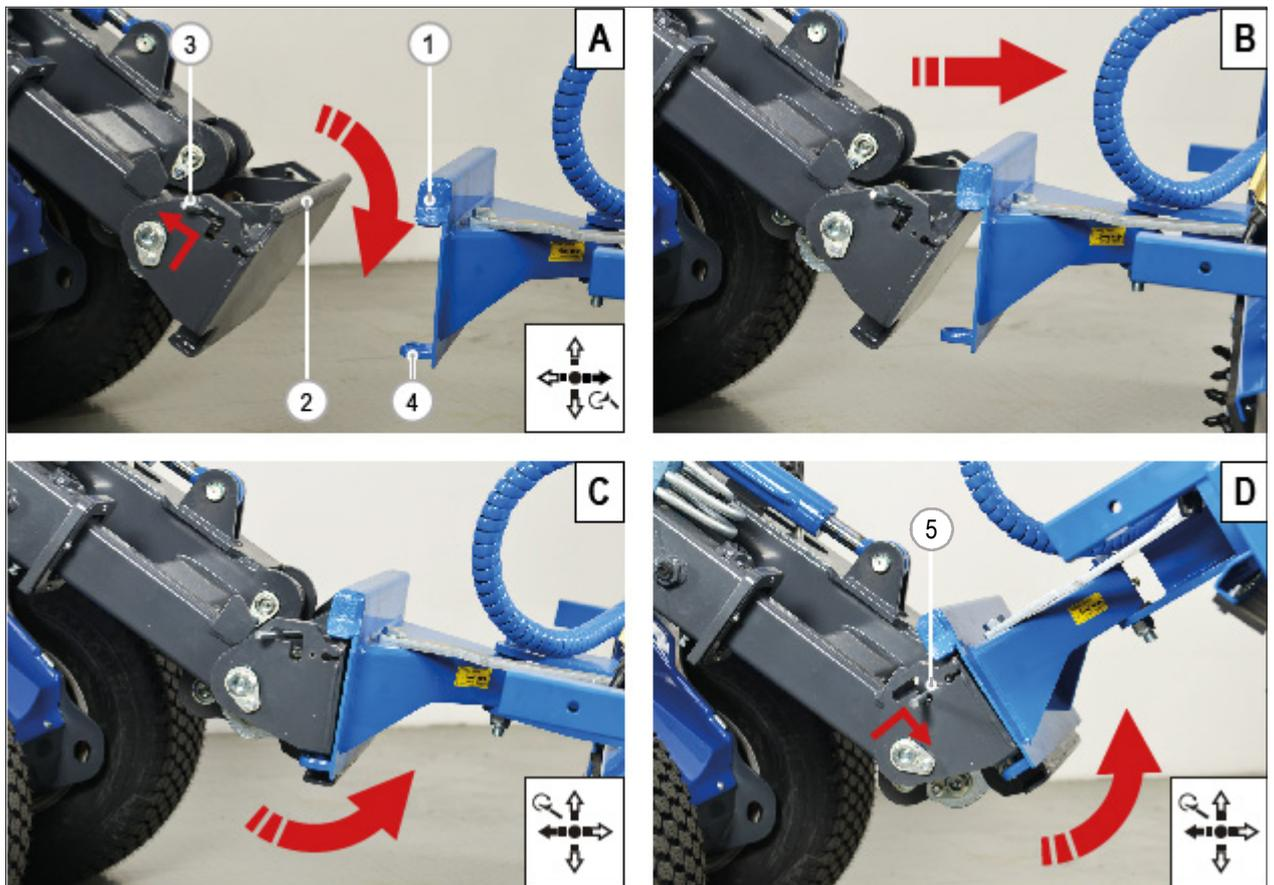

FIG. 22
- 6) Lift and push back the two levers (FIG. 22 - Ref. 3) placed on the quick coupler, in order to raise the hook plugs.
- 8) Operating carefully draw up the quick coupler to one of the attachment so as to go up the upper round profile (FIG. 22 - Ref. 2) in their curved seats of the attachment (FIG. 22 - Ref. 1).
- 9) Move slowly the multifunction joystick to the left, in this way the quick coupler leans backward, continue after lifting of a few centimetres the quick coupler and automatically the coupling system closes allowing the two plugs to fit in the seats of the attachment (FIG. 22 - Ref. 4).
- 10) Check visually the two levers (FIG. 22 - Ref. 5) are in low position. If not, it means the coupling was not successful.
- 1) Lift and push back the two release levers (**FIG. 22 - Ref. 3**) from the quick coupler in order to disengage the two plugs.